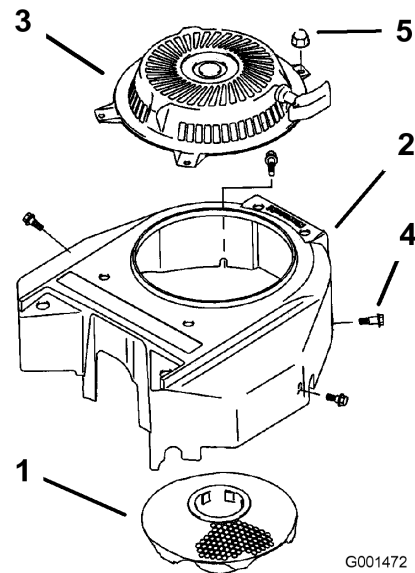

Figure 34
3. Remove the air intake screen, recoil starter and fan housing (Figure 34).
5. Install air intake screen, recoil starter and fan housing (Figure 34).